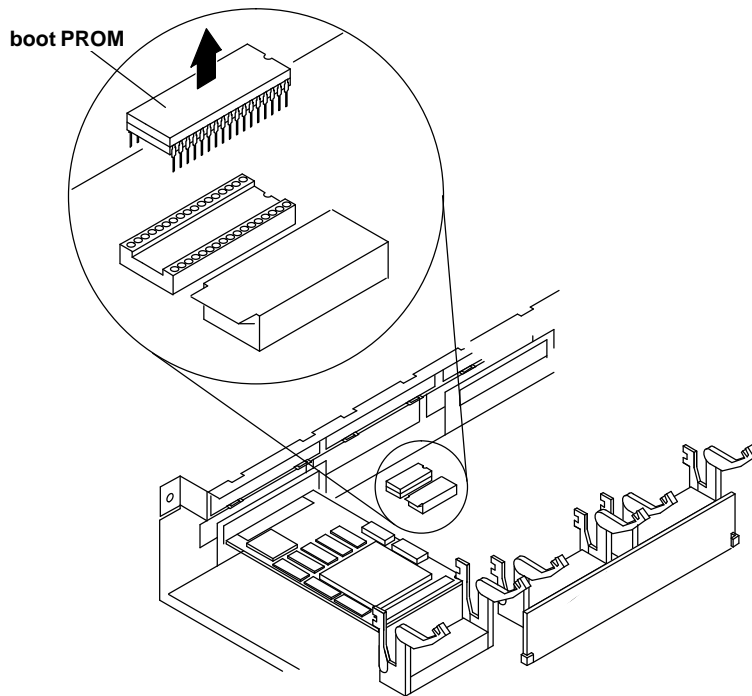

Figure 4-6. Removing the boot PROM
2. Locate the boot PROM. Refer to Figure 4-6 for the correct position of the boot PROM.